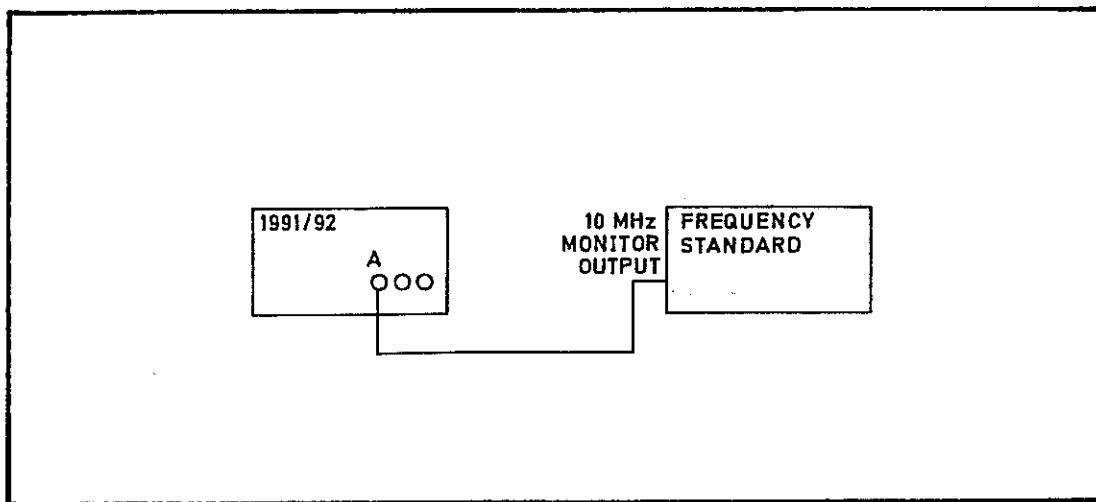

Fig 7.14 Connections for Internal Frequency Standard Adjustment
- 40 (1) Switch on the 1991/92. Select FREQ A and verify that 00000000 is displayed. If the Option 04B (9423) frequency standard is fitted, press the RESOLUTION  $\uparrow$  key until 00000000 is displayed.
- (2) Connect the test equipment as shown in Fig 7.14.